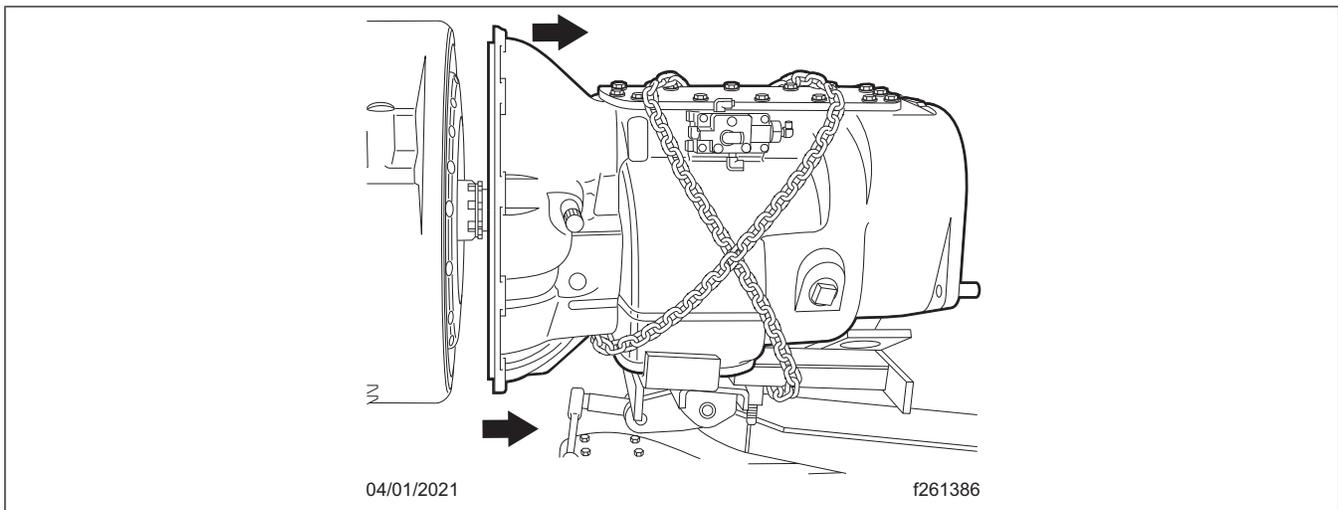

Fig. 3, Transmission Removal
18. Pull the transmission back, until the transmission input shaft is clear of the clutch and the engine flywheel housing. Lower the transmission. See Fig. 3.